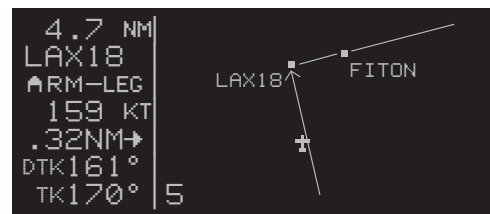

Figure 6-14
4. This may be a good time to select the Super NAV 5 page. This page is especially useful for getting a feeling of where you are in the approach (figure 6-14).